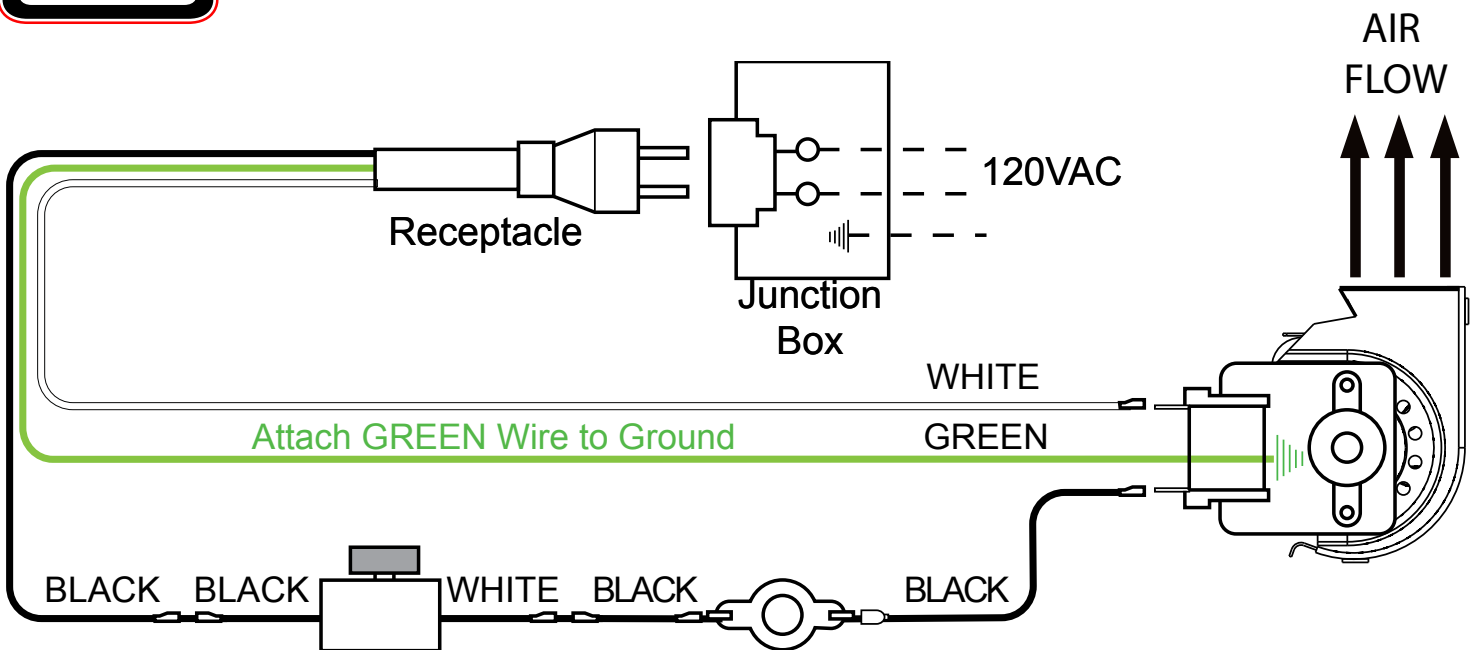

Figure: 7
•Wiring Diagram for this Blower Kit is illustrated in Figure: 7. Blower operates on 120V/60Hz power.